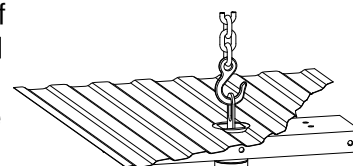

Figure A4
8. **Prepare a lifting device (optional).** The purpose of the device is to safely hold the hitch in position during part of the installation, see Figure A4 for an example. A simple mechanical lifting device is available for purchase from B&W.